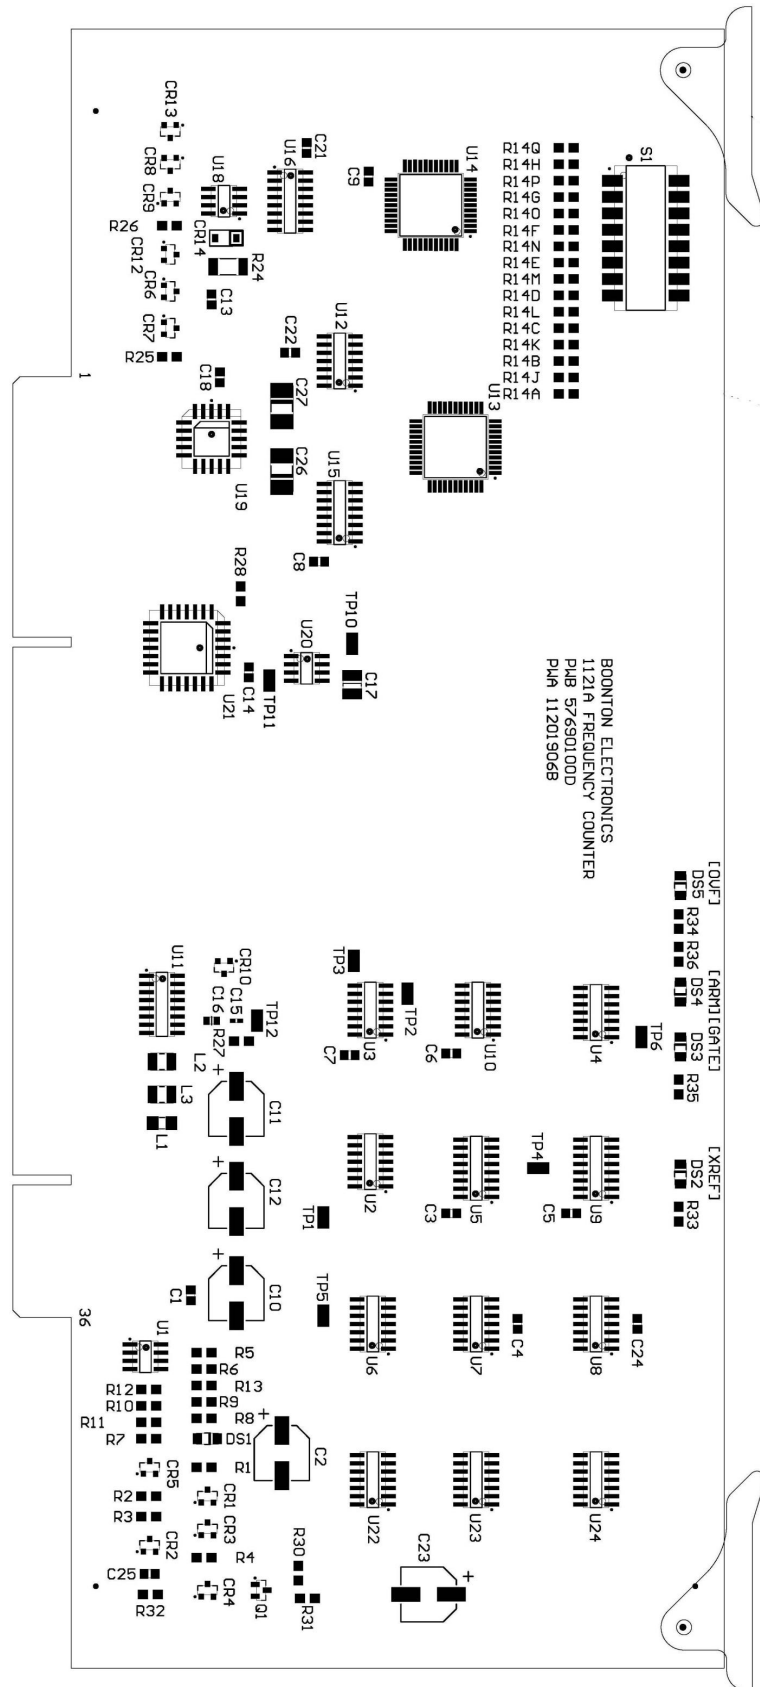

Figure 6-7. PWA '1121A' Freq Counter
**11201906A PWA FREQUENCY COUNTER 1121A (A4) (Figure 6-7)